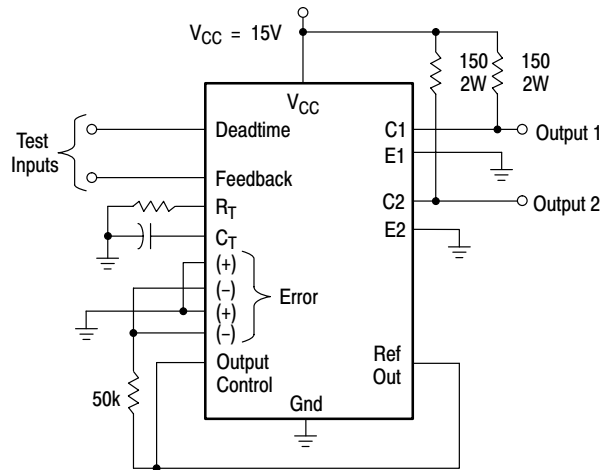

Figure 11. Deadtime and Feedback Control Circuit
**PWM COMPARATOR SECTION** (Test Circuit Figure 11)
**DEADTIME CONTROL SECTION** (Test Circuit Figure 11)